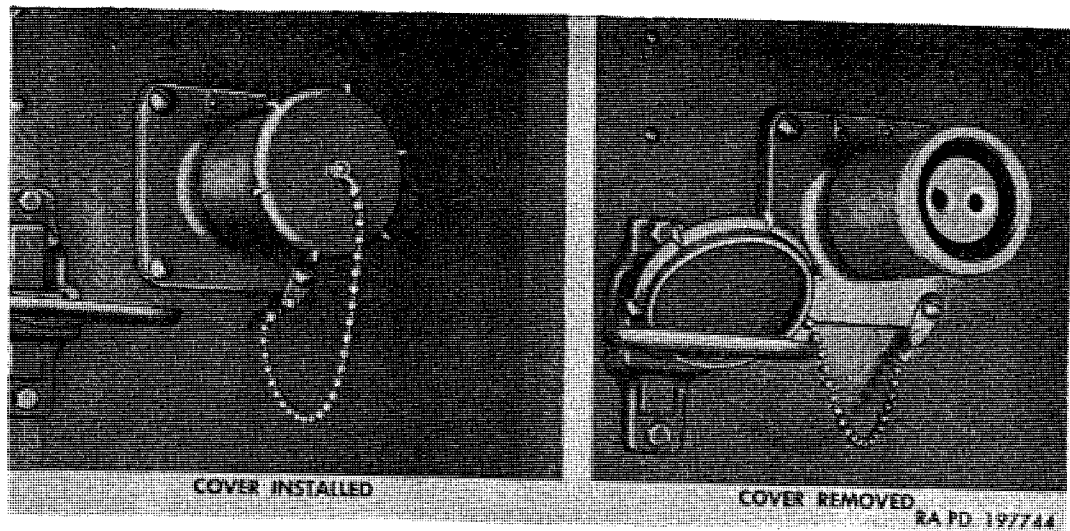

Figure 69. Power entrance receptacle.
- (1) Outside source of 115-volt ac power must be plugged into the power entrance receptacle (fig. 69) located on upper